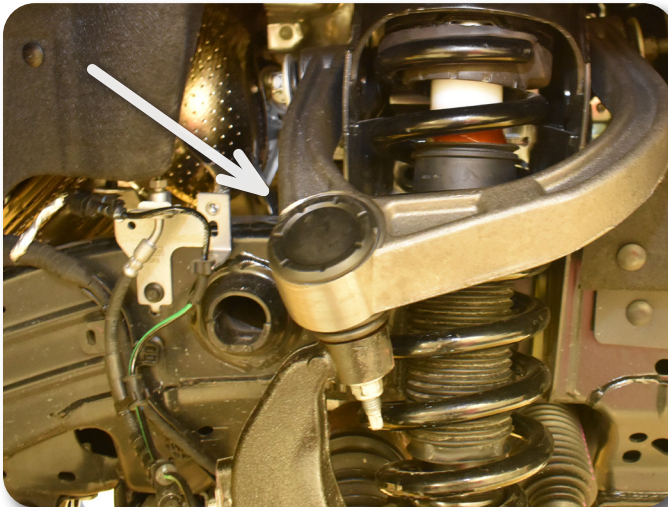

Figure 7
12. Use the included grease packet to lube the o-ring. Install o-ring onto the cap and install cap into the arm **Figure 7**.